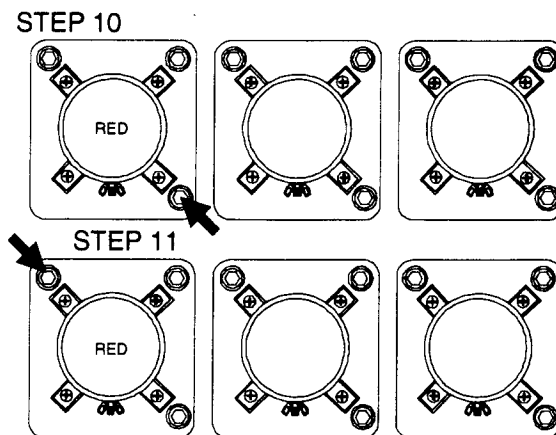

FIGURE 5-4.
- STEP 10. RED ONLY ! Adjust the lower right lens adjustment until the upper right corner of the image is focused. See Figure 5-4.
- STEP 11. RED ONLY ! Adjust the upper left lens adjustment for side to side focus. See Figure 5-4.